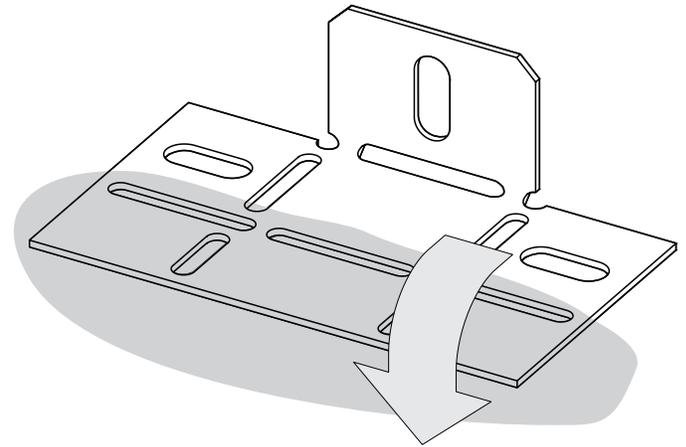

Figure 2
- A) The rear liner panel in the DVP(1,2,3,4)SKR and DVP(36,42,48)KR Kits will have a radius cut out that must be installed towards the top. **See Figure 2.**